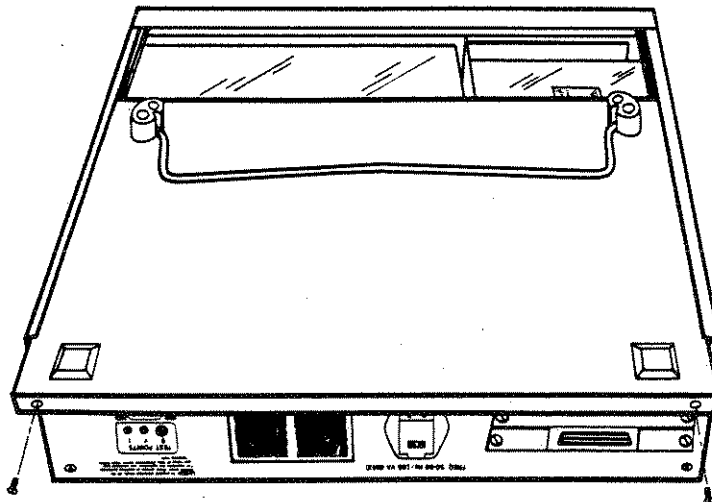

Figure 7-28. Replacing the Bottom Cover
STEP 5. Turn the instrument over and slide the bottom cover back in place. Secure the cover using the two screws that originally held it. Refer to Figure 7-28.